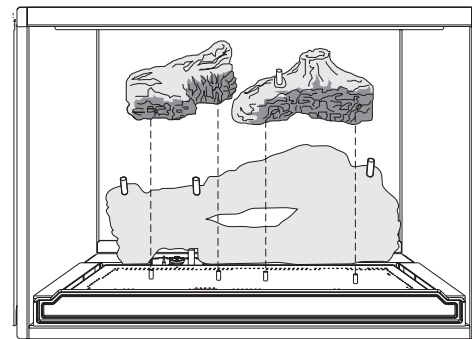

Figure 25. Place the base logs on the burner pegs.
2. Set the Lower Left and Right logs in place on the burner plate pegs as shown in fig. 25.